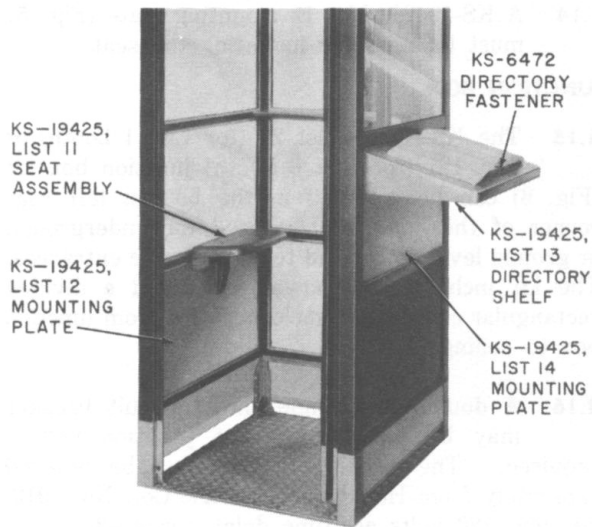

Fig. 5—KS-19425, List 11 Seat Assembly, KS-19425, List 13 Director Shelf, and Associated Mounting Plates
2.12 Shelf assemblies, directory racks, and associated apparatus are listed in Table D and shown in Fig. 5 through 7.
2.13 A KS-19425, List 11 seat assembly (Fig. 5) may be used if desired.
2.14 A KS-19425, List 12 mounting plate (Fig. 5) must be used for mounting the seat.